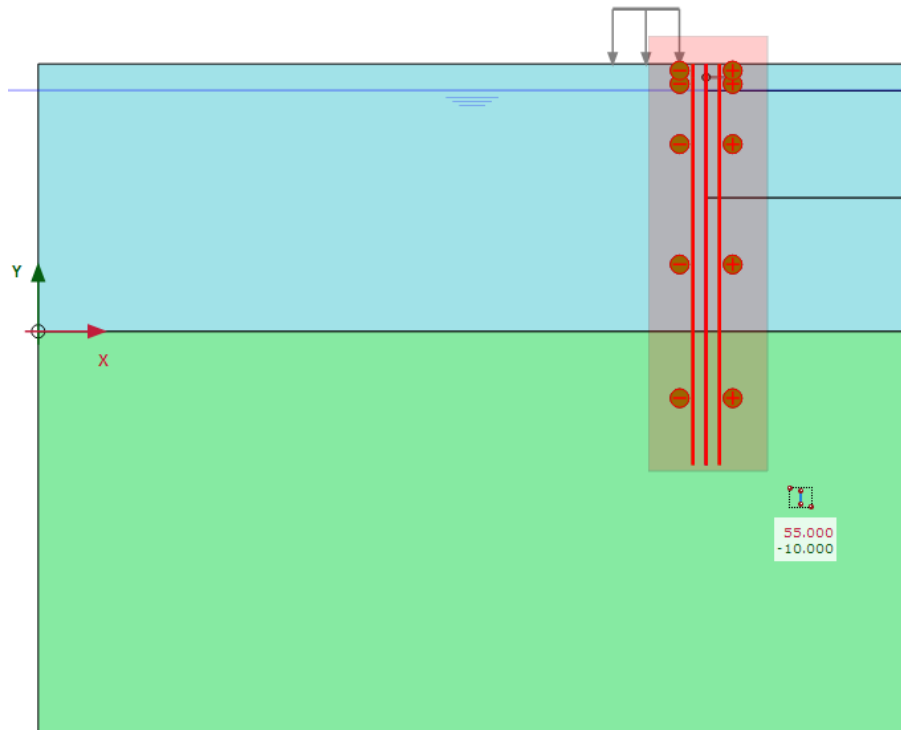

Figure 49: Selected multiple plate elements in the model
3. In the drawing area define a rectangle that includes all the plate elements as shown in Figure 49 (on page 64).